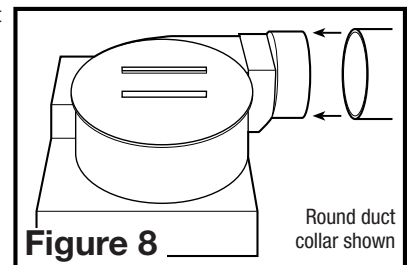

Figure 8
- Connect the ducting to the fan's duct collar (**Figure 8**). Secure in place using tape or screw clamp. Always duct the fan to the outside through a wall or roof cap. It is recommended that low restriction termination fittings be used.